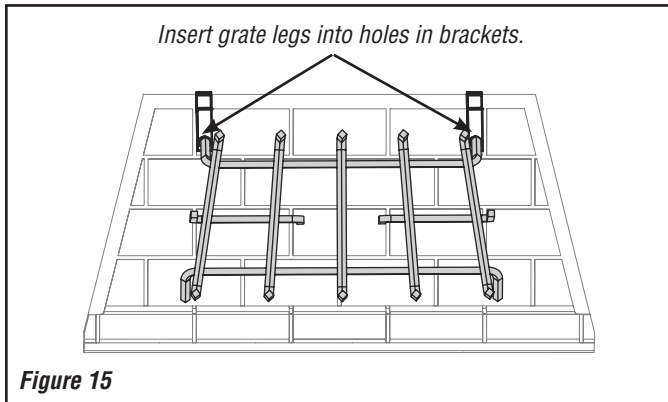

Figure 15
- 9.1. Install the grate by inserting the two rear legs into the holes in the grate brackets. See **Figure 15, below**.